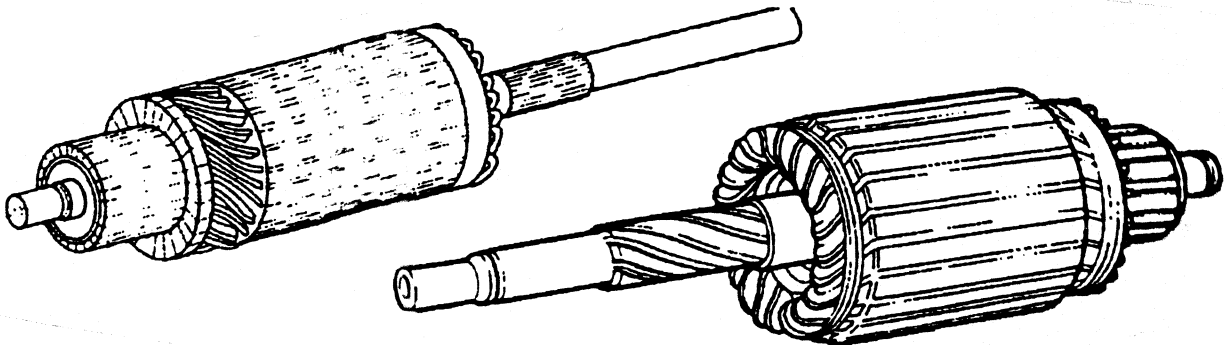

FIGURE 1—STARTER ARMATURE ASSEMBLY
4.1 This document provides a standard procedure for remanufacturing starter armatures similar to the armature shown in Figure 1.